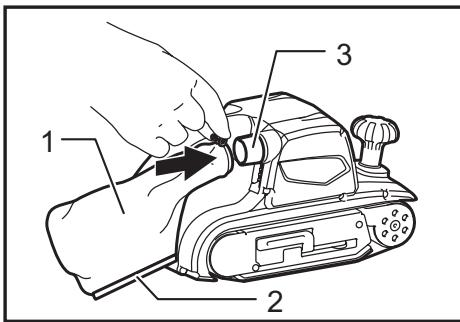

Fig.6
- Fig.6: 1. Dust bag 2. Fastener 3. Dust spout